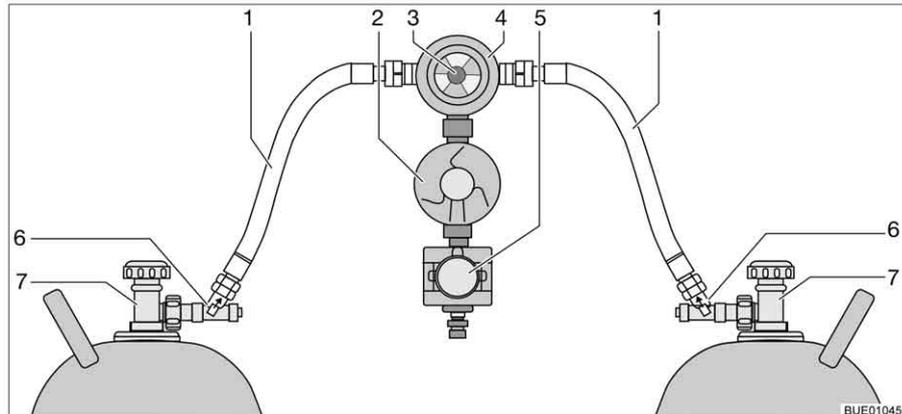

Fig. 133 Crash protection unit switching facility
The crash protection unit consists of two flow restrictors with manual release button (Fig. 133,6) a reversing valve (Fig. 133,4) with pressure regulator (Fig. 133,2), an electrovalve (Fig. 133,5) and the operating unit with tricoloured LED. The reversing valve is installed between the two gas tubes (Fig. 133,1).
Use the knob (Fig. 133,3) on the reversing valve to select which of the gas bottles is to be used as a primary bottle and which is to be used as a reserve bottle.
Only the electrical functions can be switched at the operating unit (Fig. 134). The regulator taps on the gas bottles (Fig. 133,7) and the release buttons (Fig. 133,6) must be opened manually.
- Open the regulator taps of the gas bottles (Fig. 133,7).
- Press the release buttons (Fig. 133,6) successively for 10 seconds.
- Use the knob (Fig. 133,3) on the reversing valve (Fig. 133,4) to select the gas bottle which is to be the primary source of gas (primary bottle). Always turn the knob as far as it will go.
- Close the regulator taps of the gas bottles (Fig. 133,7).